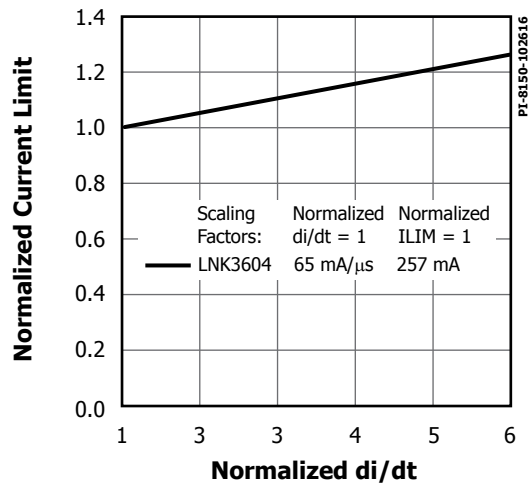

Figure 22. Default Current Limit vs.  $di/dt$ .
- D. For current limit at other di/dt values, refer to Figures 22, 23, 32 and 33.